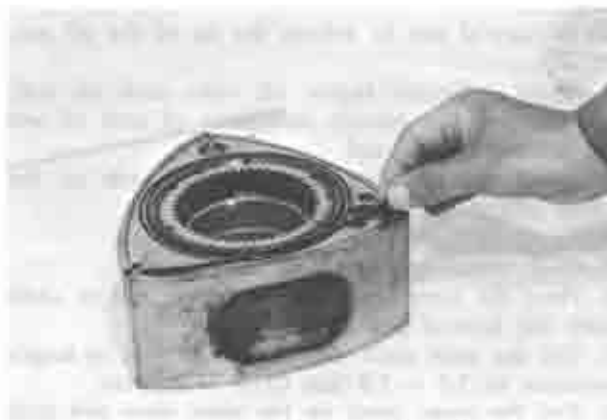

Fig. 1-56 Installing side seal
6. Fit the side seal springs and side seals into their respective grooves, as shown in Fig. 1-56.